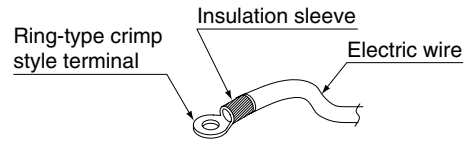

Fig. 6
- Use ring-type crimp style terminal for connections to the power terminal block. **(Refer to Fig. 6)**